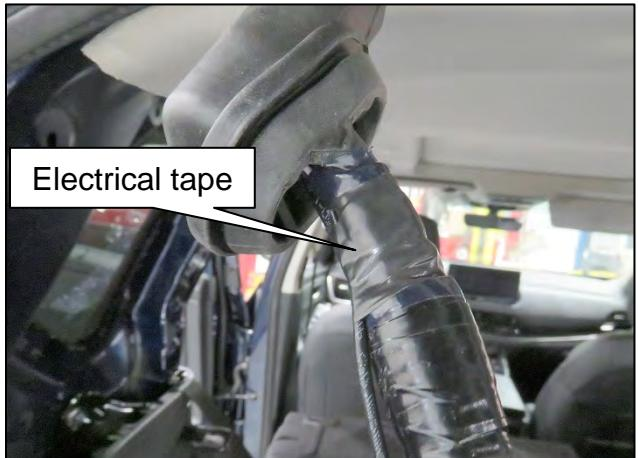

Figure 19
- One (1) point where harness exists weather boot (Figure 19).